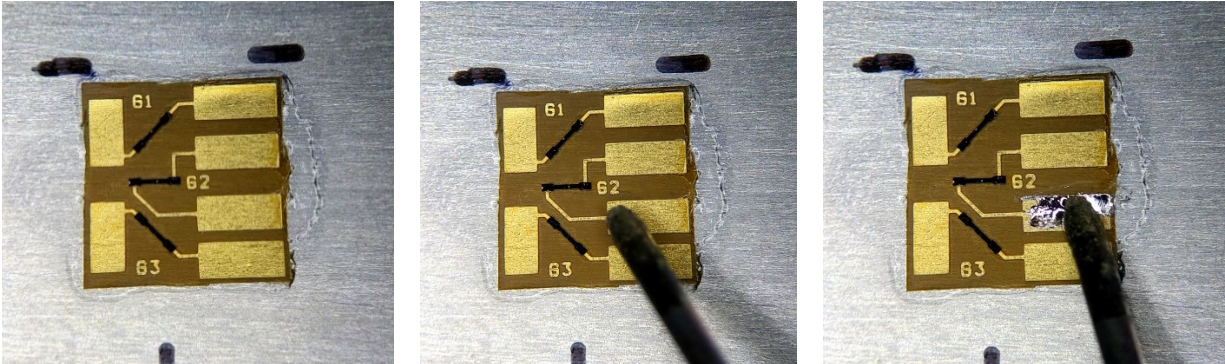

Figure C1 – Applying solder to solder pad.
- C.7 Place the solder tip on the rosette's solder pad and sweep the tip the length of the solder pad. The solder should flow freely and result in a thin layer of solder on the pad. See Figure C1.